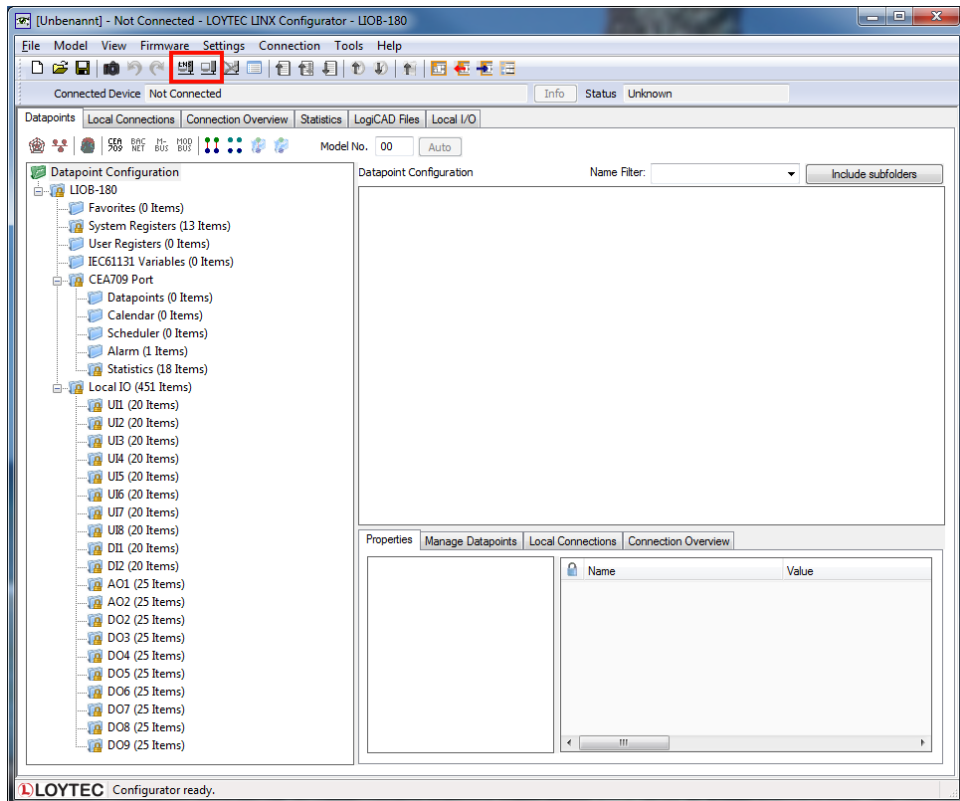

Figure 1: L-INX Configurator main screen
1. Start the L-INX Configurator software by selecting Windows **Start** → **Programs** → **LOYTEC LINX Configurator** → **LOYTEC LINX Configurator**. The application starts up and displays the data point manager screen as shown in Figure 1.
2. When the device is online, connect to the device by clicking on the LNS or device connect speed button as indicated by the red rectangle in Figure 1.